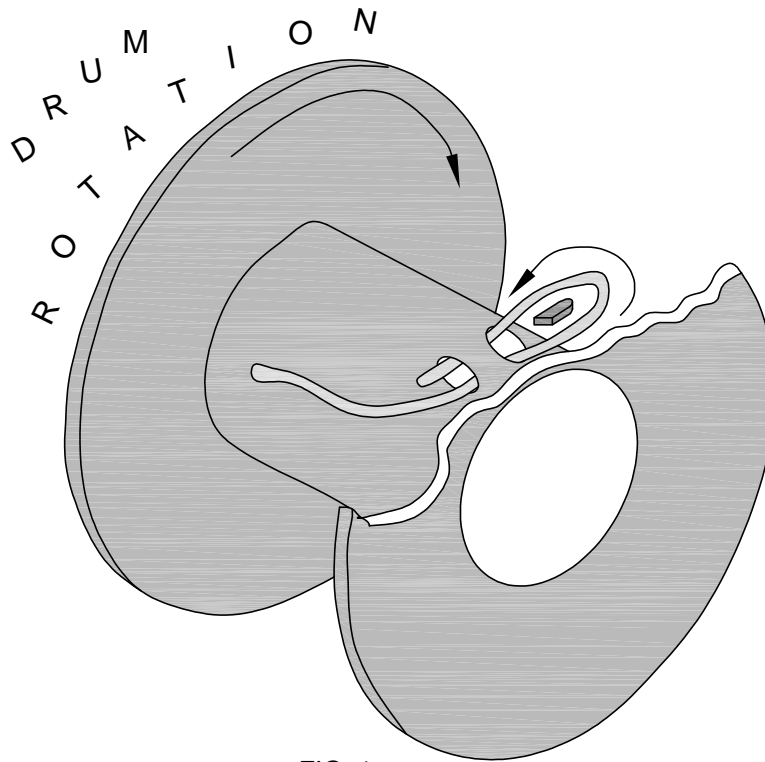

FIG. 1
- STEP 3: INSERT WIRE ROPE END INTO POCKET OPENING ON WINCH, WRAP AROUND WEDGE, AND BACK THROUGH POCKET OPENING AS SHOWN IN FIGURE 1.
Each valve station incorporates [2] hydraulic ports and [2] coils. Manual override shafts are located in the center of the coils (see figure 1). Manual override decals are placed on each crane near the valve assembly. These decals provide a visual aid that helps the operator determine the function designations (Reference figure 2).